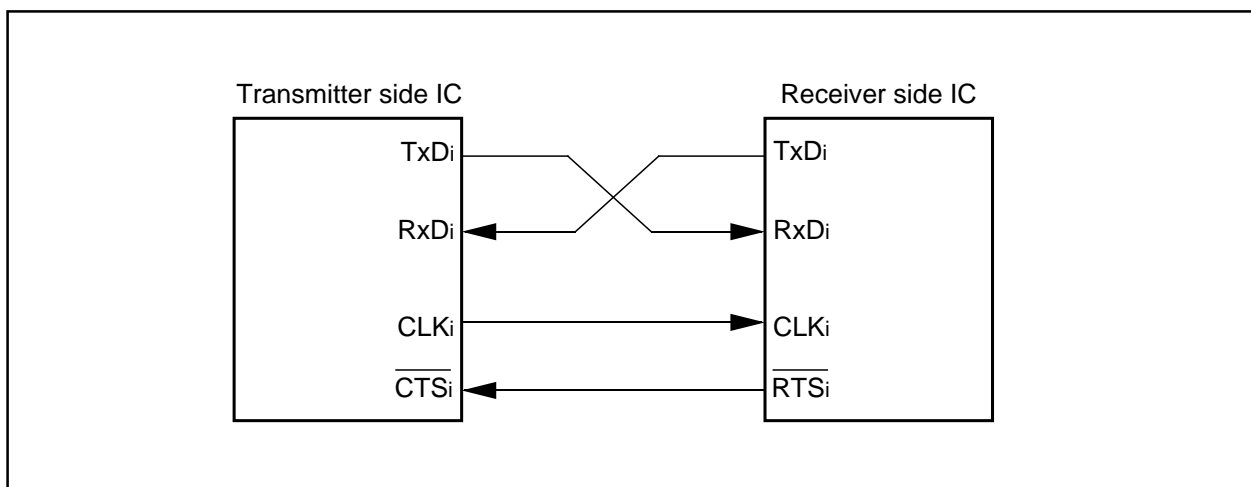

Figure 2.4.16. Example of wiring
- (1) With an external clock selected, and choosing the $\overline{\text{RTS}}$ function, the output level of the $\overline{\text{RTSi}}$ pin goes to "L" when the data-receivable status becomes ready, which informs the transmission side that the reception has become ready. The output level of the $\overline{\text{RTSi}}$ pin goes to "H" when reception starts. So if the $\overline{\text{RTSi}}$ pin is connected to the $\overline{\text{CTSi}}$ pin on the transmission side, the circuit can transmission and reception data with consistent timing. With the internal clock, the $\overline{\text{RTS}}$ function has no effect. Figure 2.4.16 shows an example of wiring.